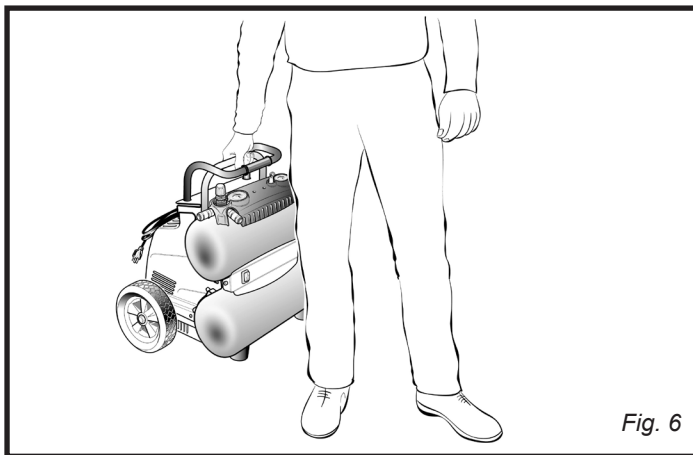

Fig. 6
See figure 6.
- For lifting the unit use only the red carry handle (see fig. 6).